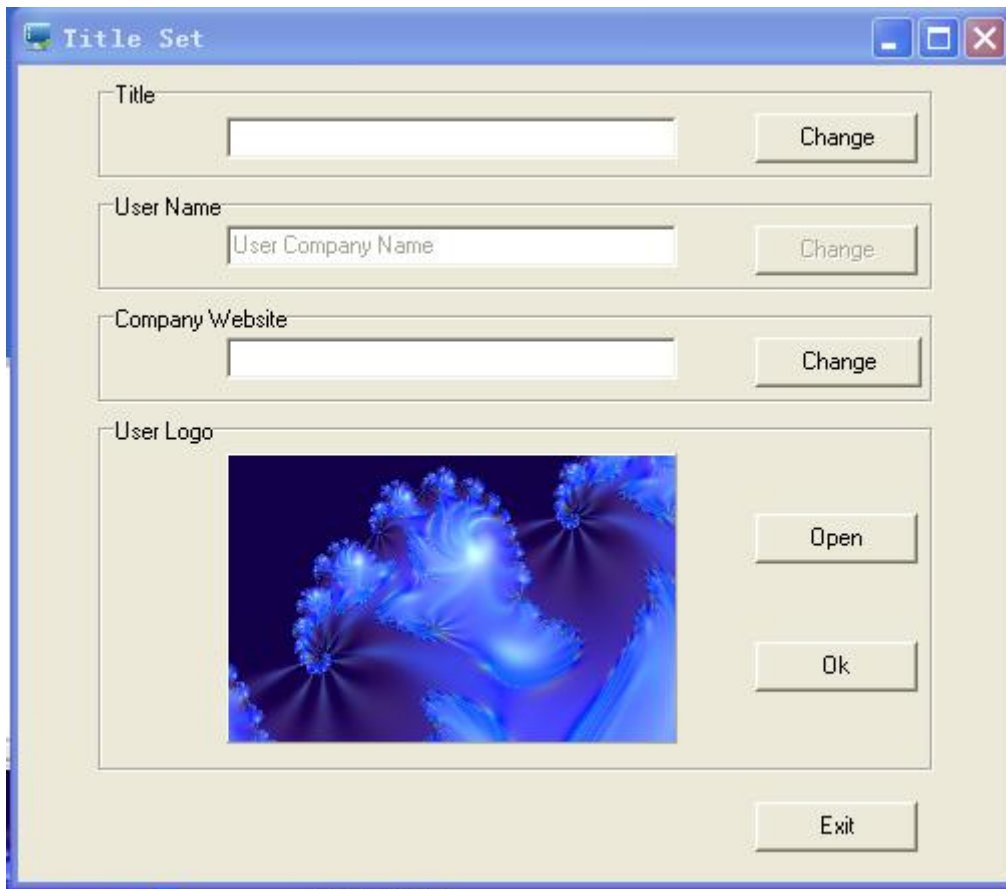

Fig. 18
(3) . Title settings: click “system” to open the “title settings” as shown in Fig. 18.